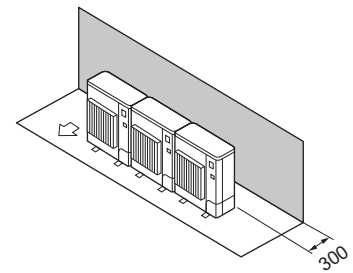

Fig. 2-13
- (1) Kun forhindringer bagved (Fig. 2-13)